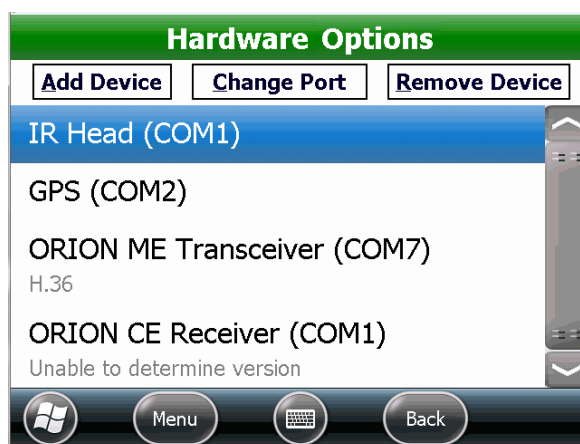

Figure 97: Device and COM port added
*Result: The Hardware Options screen displays showing the device and COM port you added (Figure 97).*